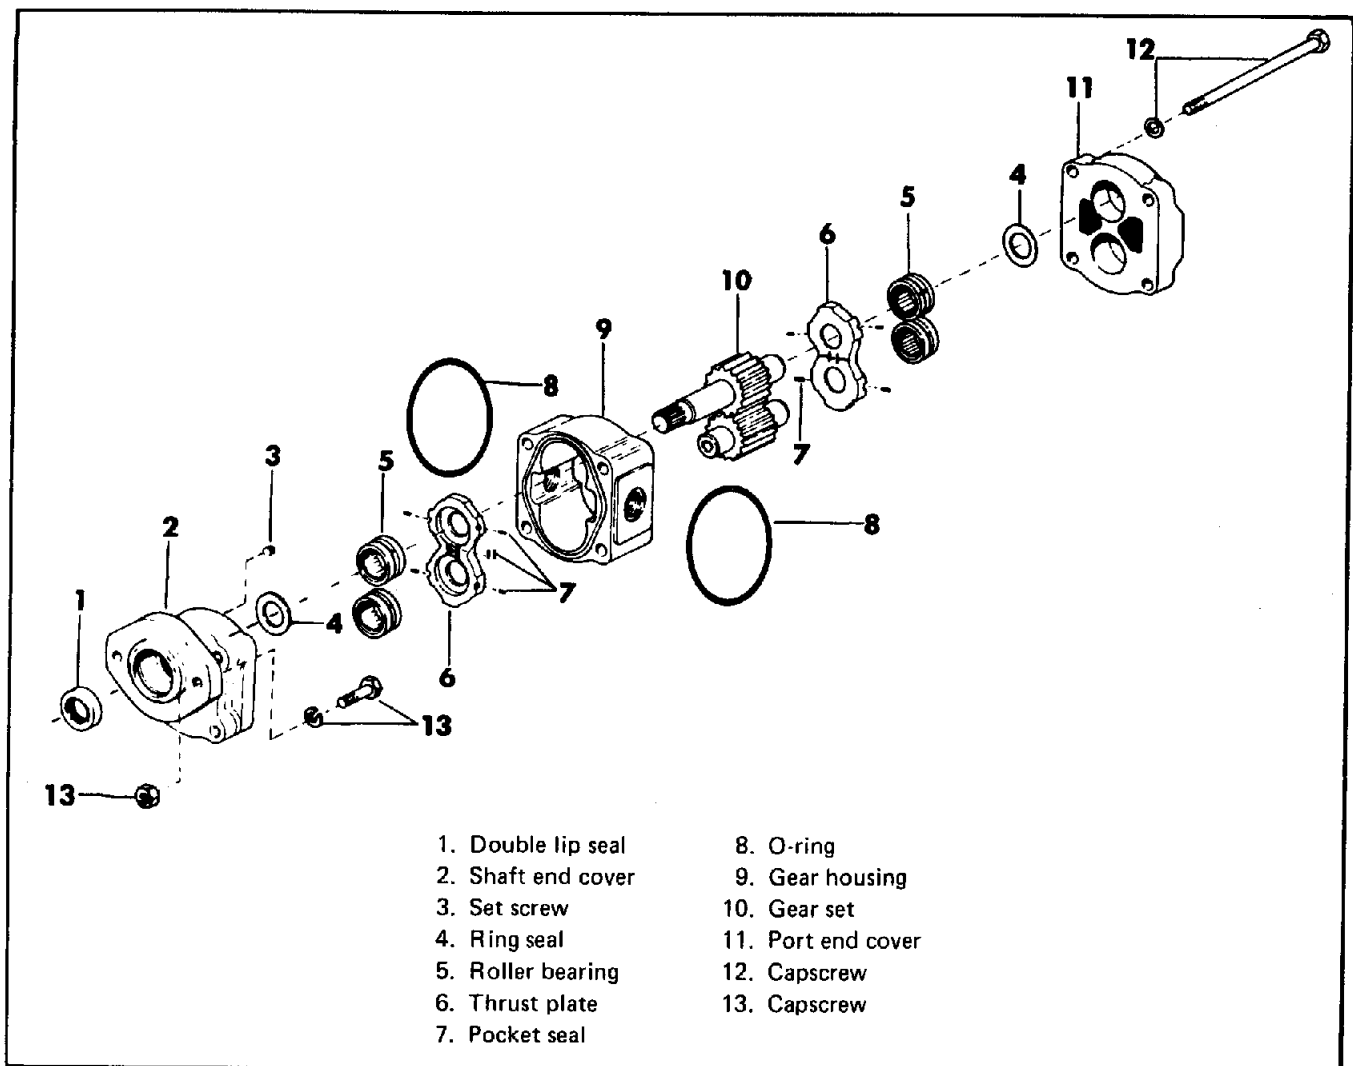

Figure 34. Power Steering Pump (500AI TRAVELIFT)
1. Index mark the port end cover (11, Figure 34), gear housing (9), and shaft end cover (2) to facilitate reassembly.
2. Remove the four capscrews and washers (12).
3. Lift off port end cover (11). The thrust plate (6) with rings seal (4), pocket seal (7) and roller bearings (5) will be removed with cover.
4. Remove the driven gear and drive gear set (10) and gear housing (9) from shaft end cover (2).
6. Turn shaft end cover (2) so that thrust plate is up. Pry off thrust plate (6) carefully with thin screwdriver. Remove and discard pocket seals (7).
7. If bearings (5) are to be replaced, remove them from the shaft end cover with a bearing puller.
8. Remove and discard O-rings (8).
9. Remove and discard lip seal (1) from shaft end cover (2).